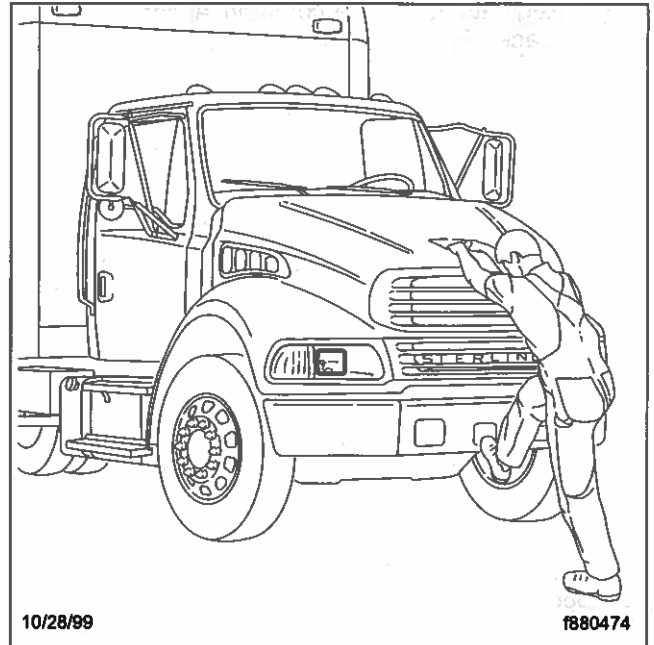

Fig. 3.7, Tilting the Hood
3. Using the front bumper step and the hood handle, slowly tilt the hood until the stop cables support it. See **Fig. 3.7**.